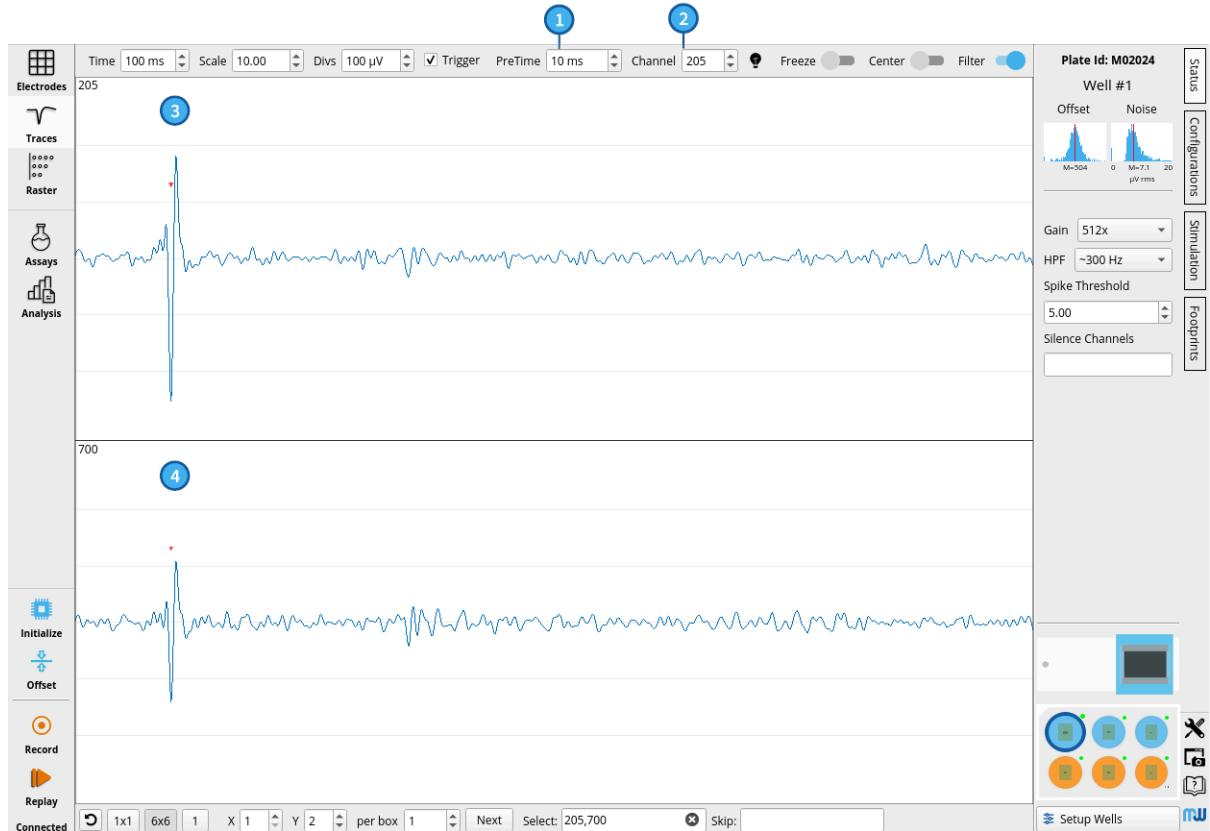

Figure 3.8. Using the Trigger Mode
Checking the tick-box activates the Trigger Mode. In this mode the signal is updated every time an event is detected on a particular channel. The Trigger Mode is controlled by the two additional fields which appear next to the Trigger checkbox (see Figure 3.8) and are explained in the section below.
Figure 3.8 displays the Trigger Mode which can be used to study the action potential waveform of a particular channel in more detail, or check other channels for related activity. In the example below, the signal is triggered on channel 205 (2) and will refresh every time a spike is detected in this channel.
Upon activating the Trigger Mode, the trigger parameters ((1) and (2) in Figure 3.8) appear on the control panel.
(1) PreTime